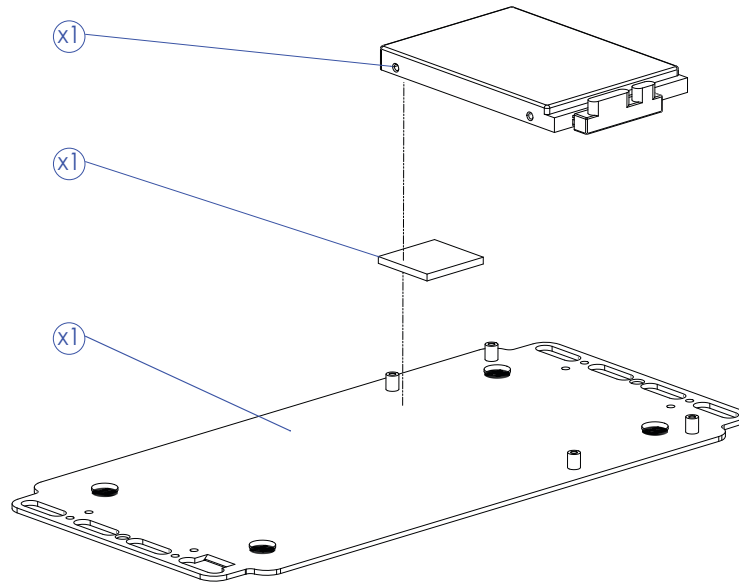

Figure 2.21 Illustration for step 3
3. Paste HDD thermal pad on bottom cover, and assemble HDD with HDD bracket onto bottom cover. (Figure 2.21)